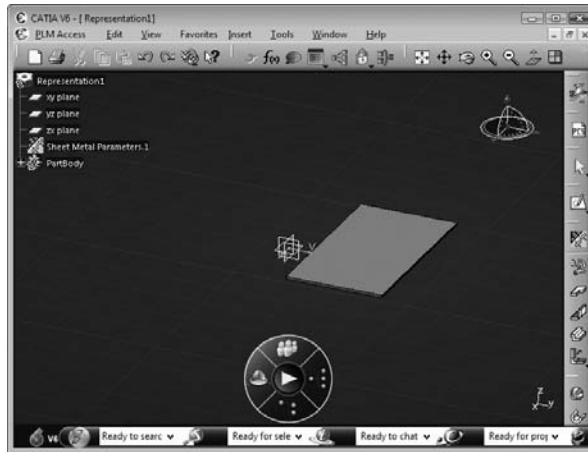

FIGURE 6.78
2. Create a base wall, as shown in **Figure 6.78**: